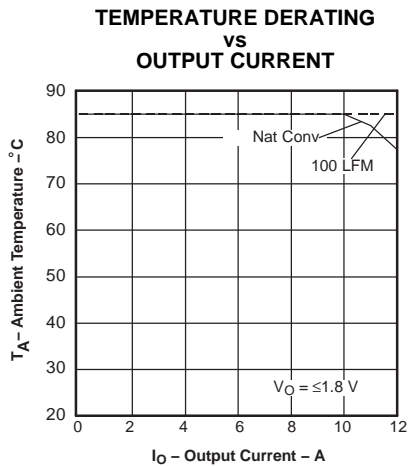

Figure 10.
- (2) The temperature derating curves represent the conditions at which internal components are at or below the manufacturer's maximum operating temperatures. Derating limits apply to modules soldered directly to a 4 inch x 4 inch double-sided PCB with 2 oz. copper. For surface mount packages (AS and AZ suffix), multiple vias (plated through holes) are required to add thermal paths around the power pins. Please refer to the mechanical specification for more information. Applies to Figure 10.